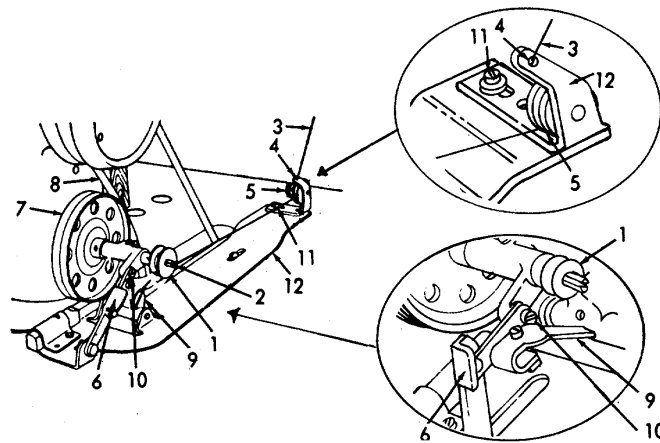

Figure 2-26. Bobbin Winding.
e. Winding the Bobbin (Refer to Figures 2-26 and 2-27).
- (1) Refer to Figure 2-26. Place an empty bobbin (1) on the bobbin winder spindle (2) and push it on as far as it will go.
- (2) Pass the thread (3) from the unwinder bobbin thread cone down through the hole in the tension bracket (4) and down between the bobbin winder tension disks (5).
- (3) Pull the thread from the lower side of the tension disks (5) to the bobbin (1).
- (4) Pass the thread around the bottom side of the bobbin and wind it around the bobbin a few times.
- (6) Press the ON button to start the motor and depress the foot treadle to wind the bobbin until the bobbin is fully wound. If properly adjusted by the stop latch adjusting screw (10), the automatic stop latch (9) will operate and throw the bobbin winder pulley (7) away from the machine belt when thread is 1/16 inch (1.6 mm) below the spool lip.
- (7) Regulate the amount of thread wound on the bobbin (1/16 inch (1.6 mm)) below spool lip by adjusting the bobbin winder stop latch screw (10). To wind more thread on the bobbin, turn the screw to the right. To wind less thread on the bobbin, turn the screw to the left.
- (8) If the thread fails to wind evenly on the bobbin (Refer to Figure 2-27) or piles up on one side of the bobbin, loosen the screw (11, fig. 2-26) which holds the tension bracket (4, fig. 2-26) to the base (12, fig. 2-26), and move the tension bracket to the right or the left, as required, then tighten the screws evenly.